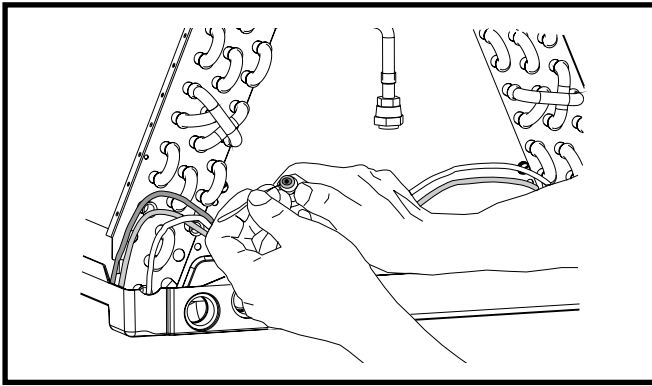

Figure 6. Removal of Orifice
6. Insert a light-gauge wire hook between the distributor body and the restrictor orifice while being careful not to scratch either part. Carefully remove the restrictor orifice from the distributor body. See Figure 6 (page 9).